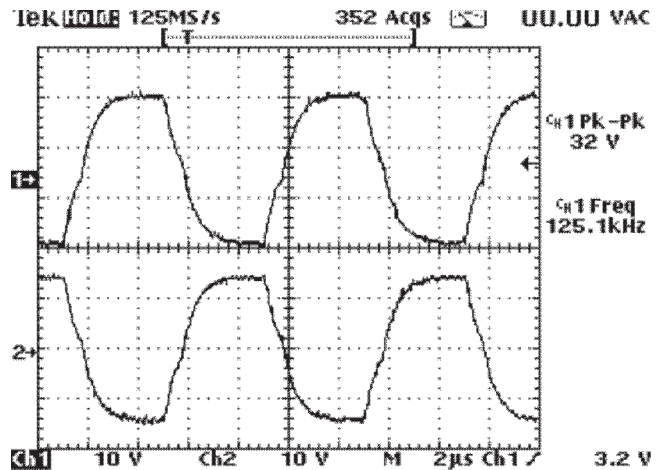

Figure 3.1 IGBT gate drive waveforms
- Inspect and repair damaged or burnt traces, if needed. For best results, always replace R293, R294, R290, R291, U46, and D106 when replacing blown IGBTs. On amplifiers made after January 2008, there also are fuses to replace, F5 and F6. With the AC voltage completely shut off, check gate drives at each IGBT by using the service fixture to power the control circuits via TEST PORT-A and TEST PORT-B. Confirm that the IGBT gate drive waveform is correct, as shown in Figure 3.1.
- With the AC shut off and the amplifier powered by the service fixture, check the drive signal at the gate of each of the two IGBTs. See Figure 3.1. They should appear as somewhat rounded square waves from gate driver transformer T4 (schematic: see sheet “Power Supply, PL380” zone D-3), measuring about  $\pm 14$  V peak. Each waveform should have a slight but visible flattening as it crosses zero, which forms a short dead time where both IGBTs are off (an IGBT turns on at  $V_{GS}$  of about 7 V).